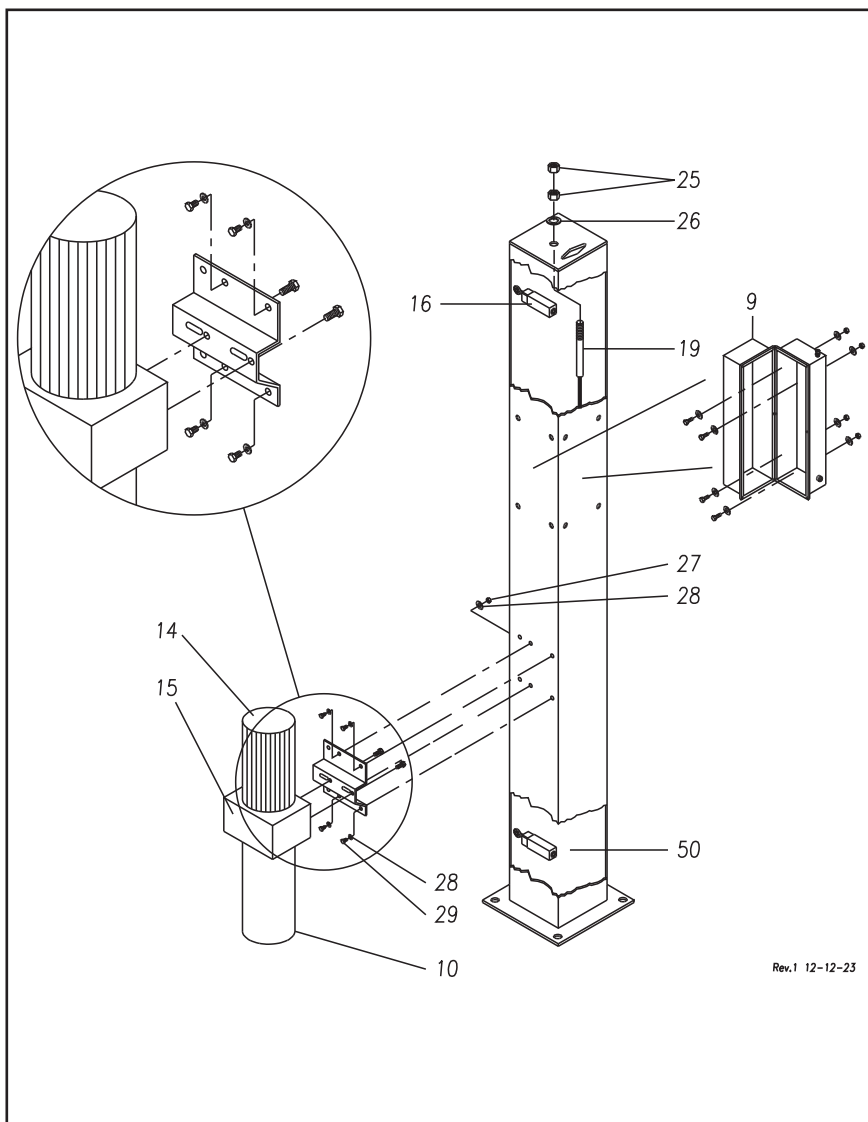

Fig.42 Preparation of post 1
The posts can be identified by the numbers at the top. The control post (1) is also distinguished from the others because it has drilled holes to receive the control panel and the hydraulic power unit (fig.42).